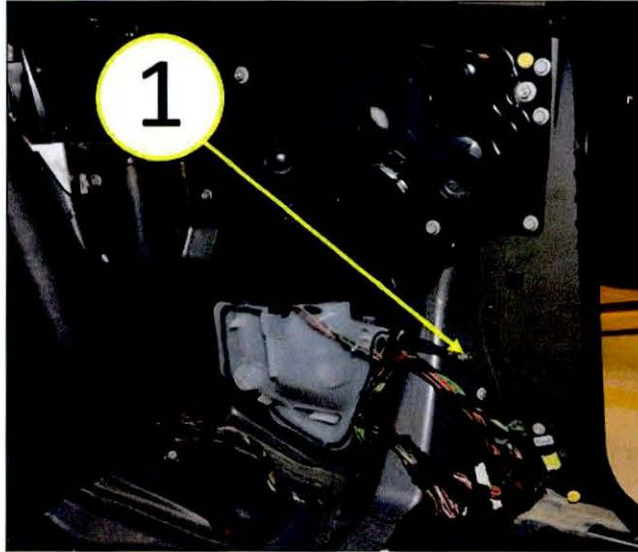

Fig. 5 Ground Connection Location
6. Locate the power top control module ground connection located behind the left quarter trim panel (Fig. 5).